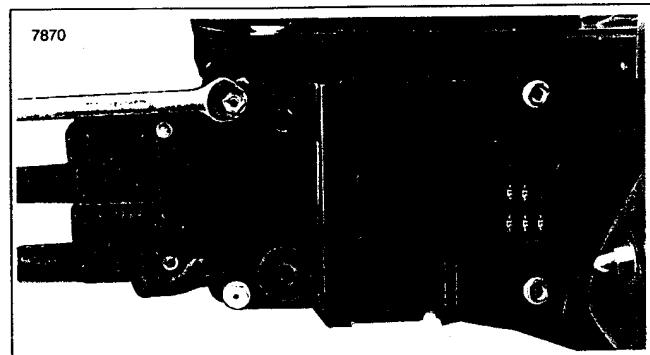
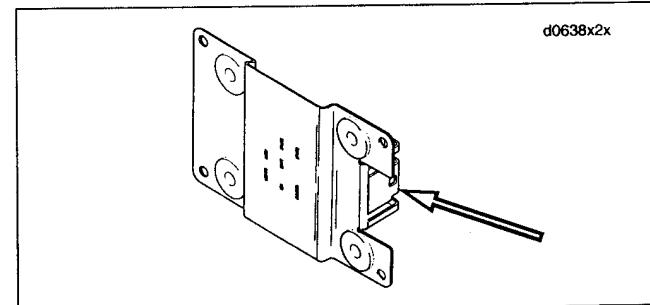

Figure 5-4. Removing/installing Top Plate
Figure 5-6. Top Plate Slotted Tab
4. See Figure 5-4. Remove nuts on top plate.
2. See Figure 5-6. See Figure 5-4. Slide slotted tab of top plate into panel adjacent to fuses.
3. See Figure 5-4. Install and tighten nuts on top plate.